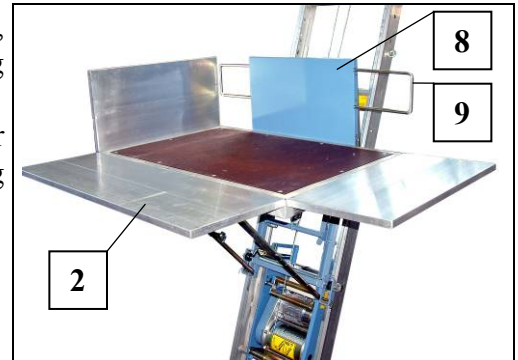

Fig. 53 Adjusting boards
- The front board (8) can also be unfolded (e.g. for easier loading on the upper ladder track end).
- Push protective clamp (9) in (see Fig. 53).
- Lift board (8) up, unfold and push into the frame of the platform.